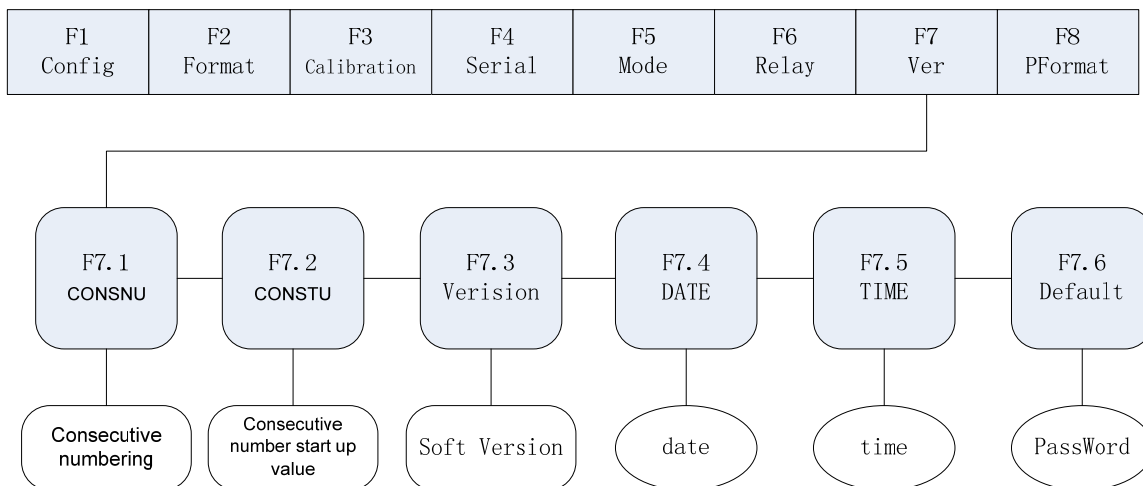

Fig. 7-2 Consecutive Numbering Setup
- (1) Set indicator to Configuration mode. Display shows “F1”.
- (2) Press \blacktriangleright until display shows “F7” (see Fig. 7-2). Press \blacktriangledown to go to F7.1 Menu. Display shows “F7.1”
- (1) Follow points (1) and (2) to enter into F7 Menu.
- (2) When display shows “F7.1”, press \blacktriangleright until display shows “F7.4” (see Fig. 7-2). Press \blacktriangledown to enter into Date setup mode and display shows “DD.MM.YY”. Follow Fig. 4-2 to set to the current date.
- (3) When date setup is complete, press \bigcirc to return to F7.5 Menu. Display shows “F7.5”.